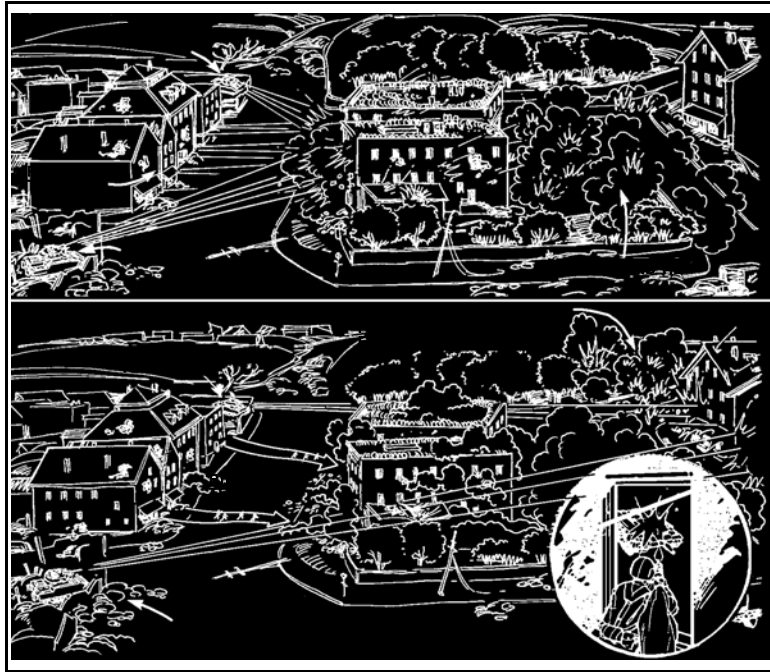

Figure 1. Isolating a building.
- a. Isolate the building (Figure 1, page 3-262). The fighting vehicle element, supported by indirect and direct fire, isolates the building. Place the fighting vehicle element in an overwatch position. Then direct the fires of the M2s and adjust indirect fires to suppress enemy troops in the building and those in nearby buildings who can fire at the dismount element.